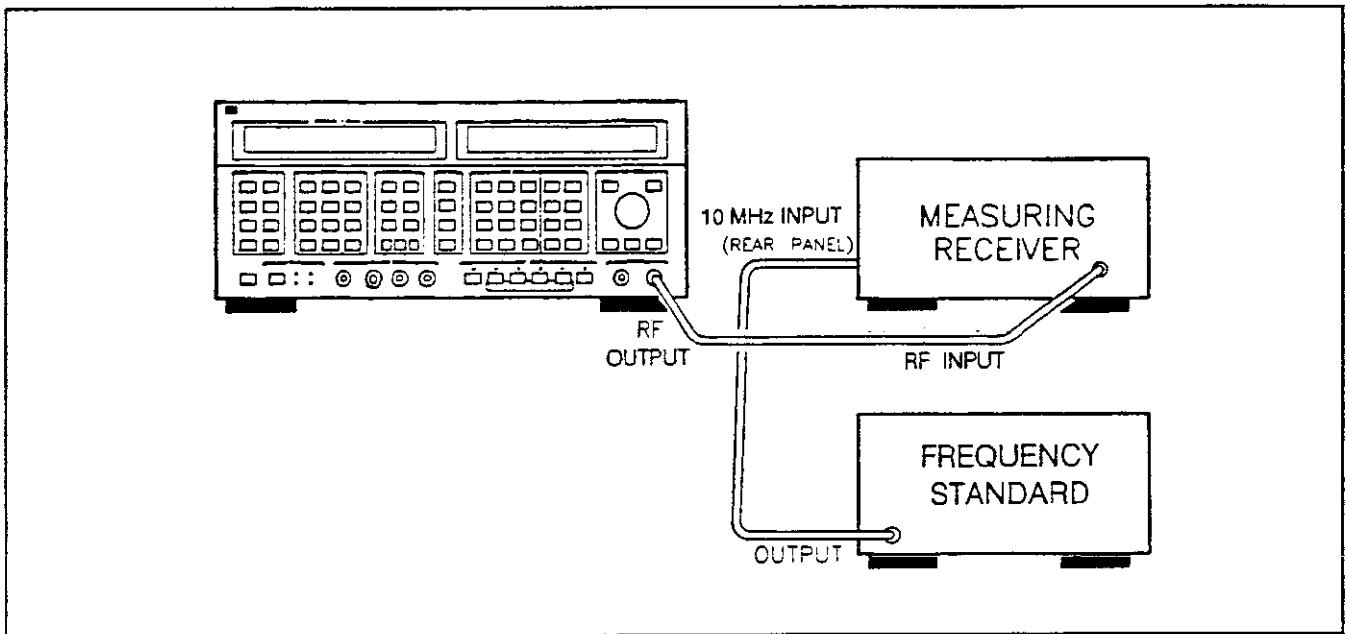

Figure 8-16. Frequency Accuracy Test Setup
1. Connect the equipment as shown in figure 8-16.